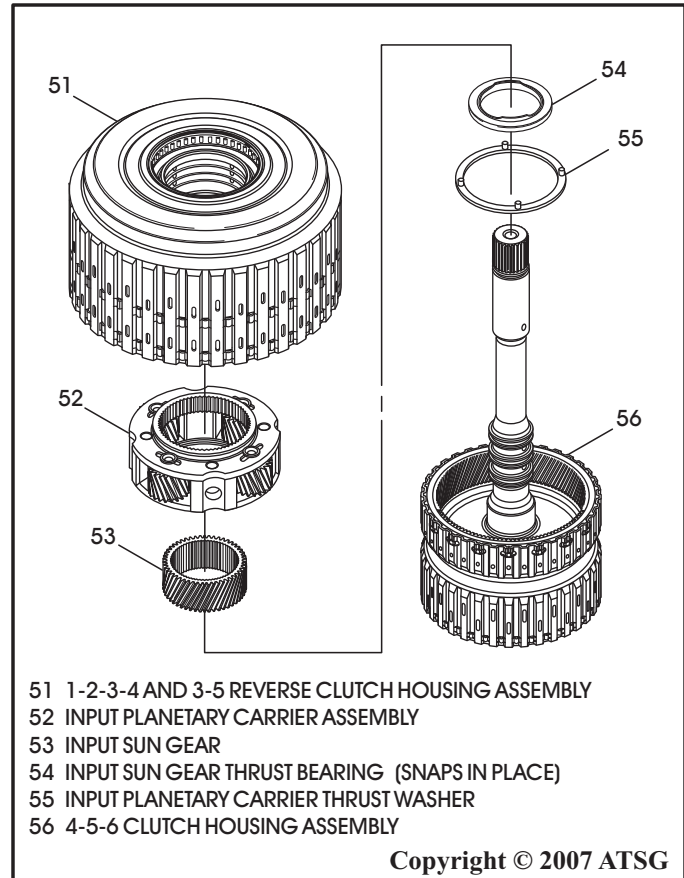

Figure 46
8. Separate all components removed, as shown in Figure 46, and set aside for component rebuild section.